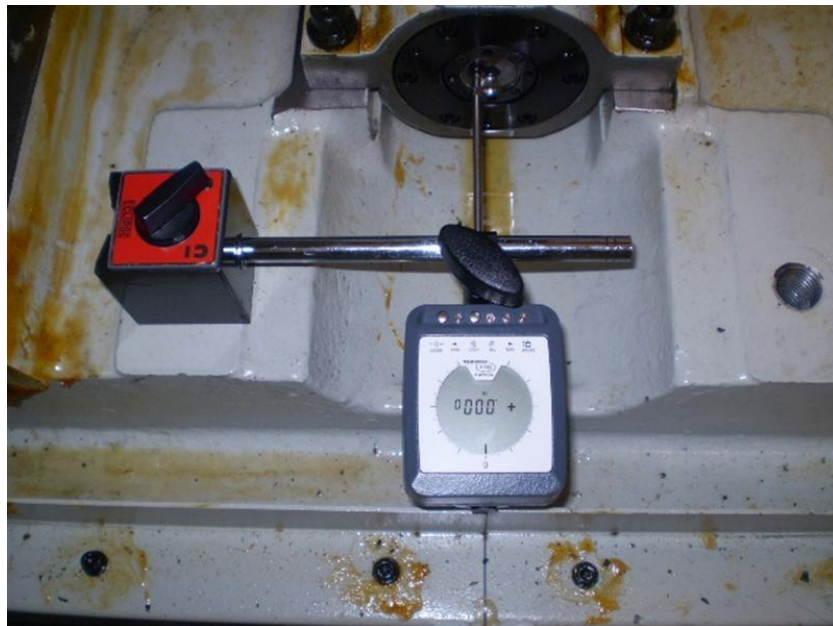

Figure 6.9.3a
5. Set-up an indicator at the support end as shown in figure 6.9.3a, loaded approximately .002" then reset to zero. This indicator will measure pre-tension. Pre-tension is the indicated reading at the support end, less the indicated reading at the motor end. i.e. if the motor end